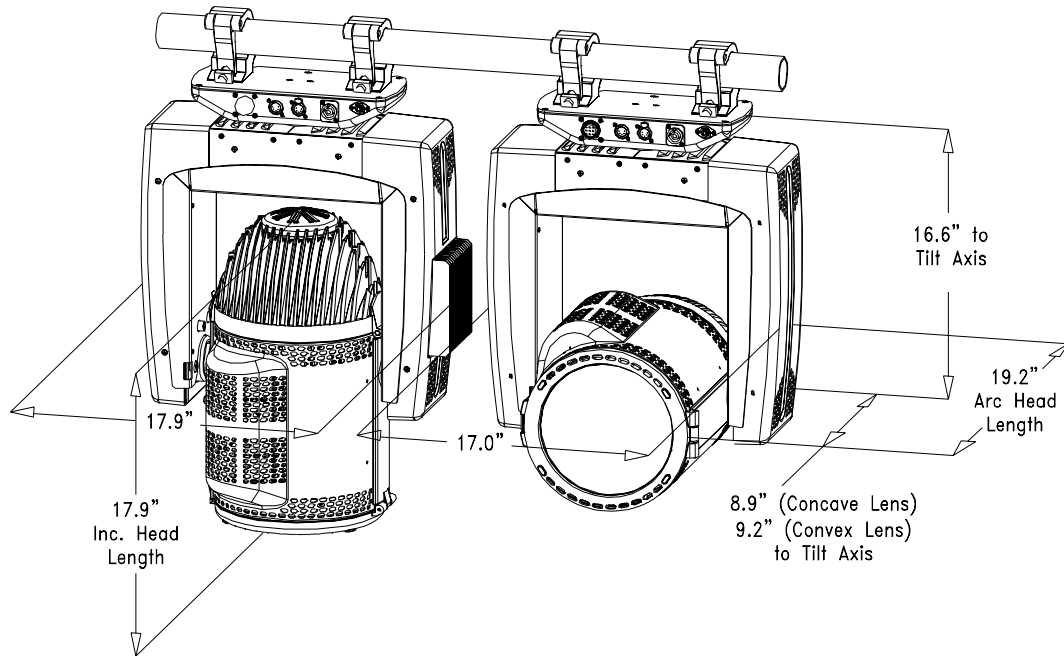

Figure 2-4: Hanging Dimensions and Clearances
Step 2. After installing truss hooks, the hooks should be oriented as shown in Figure 2-2 and Figure 2-4.